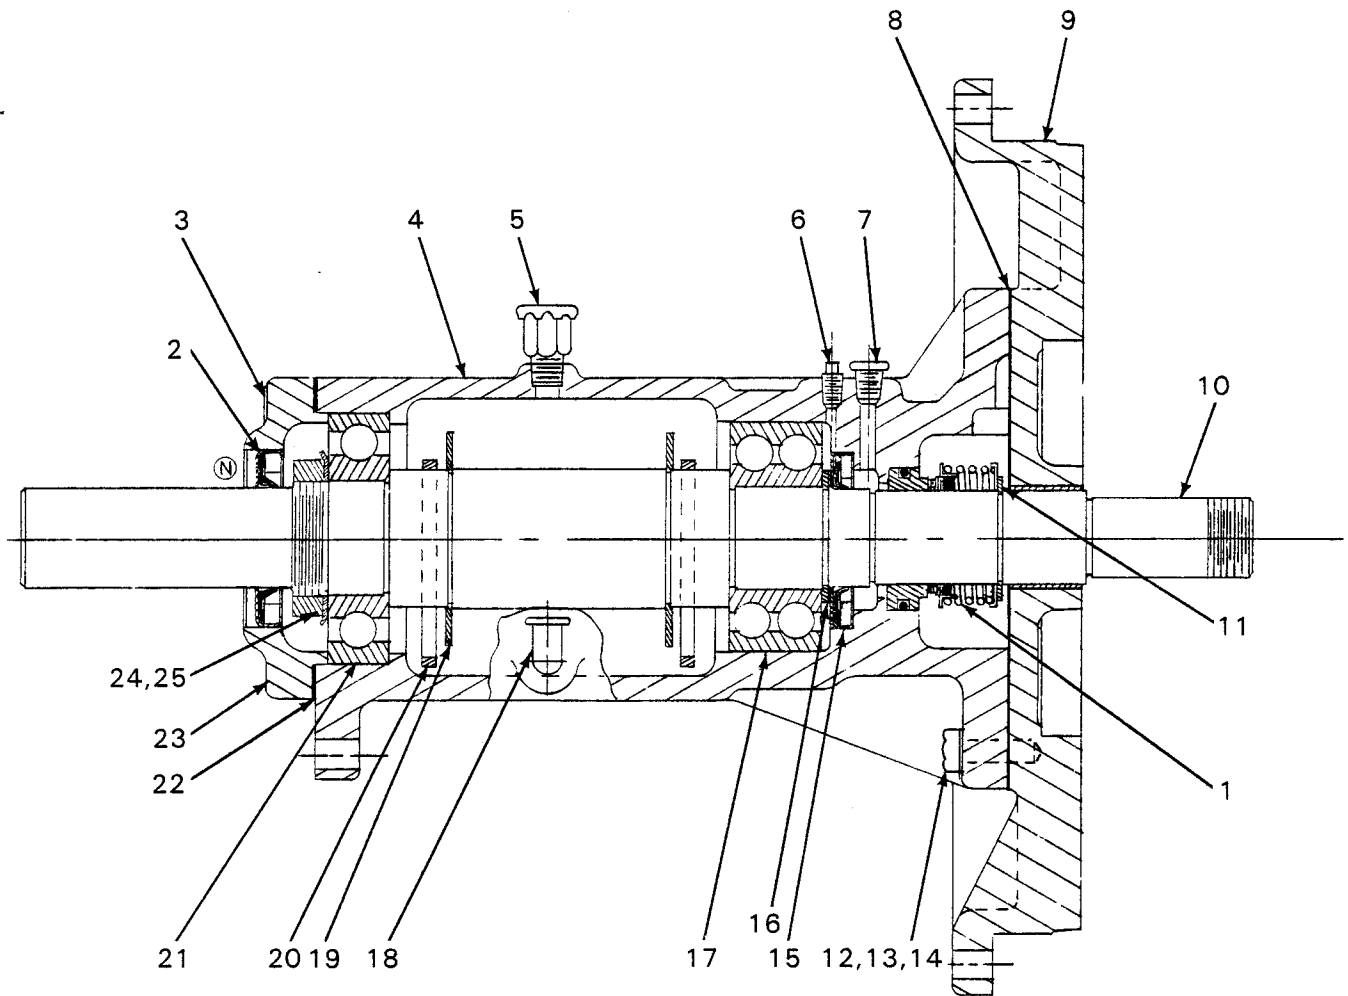

Figure 2. R-12948-02 Bearing Housing Assembly
This pump requires little service due to its rugged, minimum-maintenance design. If it becomes necessary to inspect or replace components in and adjacent to the rotating assembly, however, follow these instructions, which are keyed to the sectional views (see figure 1 and figure 2) and the accompanying parts lists.
Slide the impeller off the shaft (10, figure 2).
To remove the seal assembly (1, figure 2), remove the retaining ring (11). Use caution when removing the retaining ring from the shaft; tension on the seal spring will be released as the retaining ring is removed.